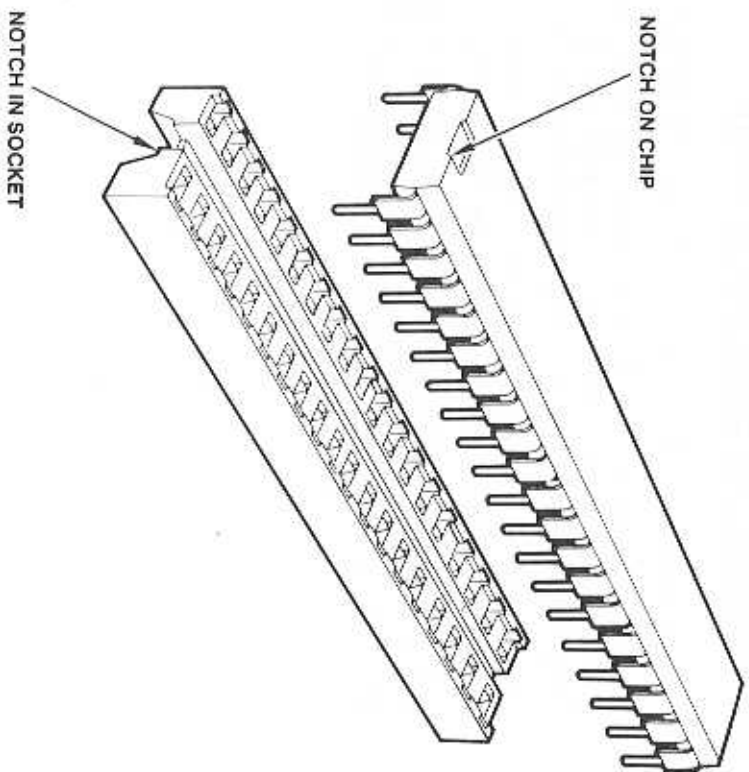

Figure 6-2. Inserting the Math Coprocessor
4. Install the chip by aligning the coprocessor pins with the socket connectors. Be sure the notch at one end of the chip faces the notch on the socket (Figure 6-2). Press firmly.